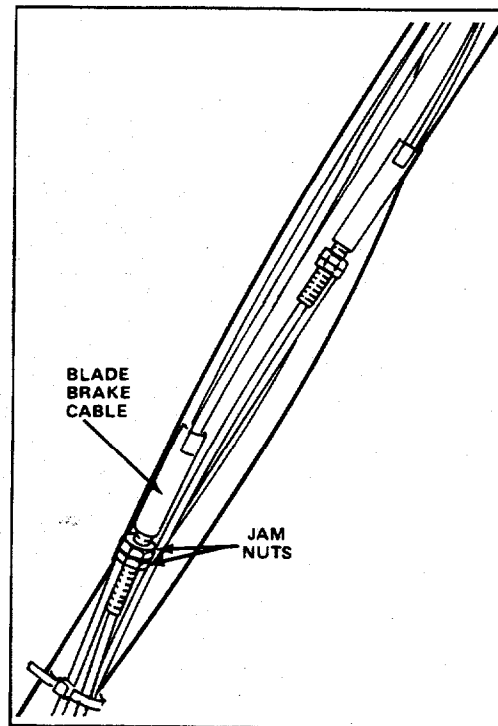

Figure 29
5. To adjust, loosen bottom jam nut on blade brake cable (Fig. 29) and adjust top jam nut until spring dimension is as near as possible to but not less than 1". (See note below.)